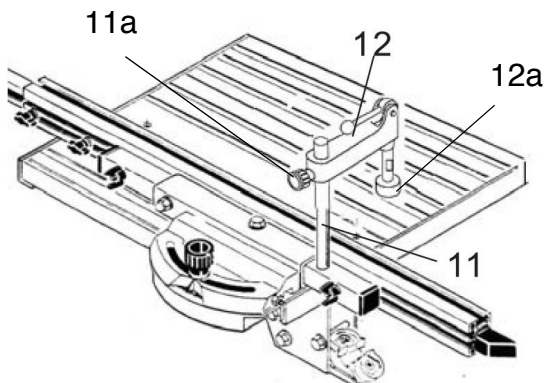
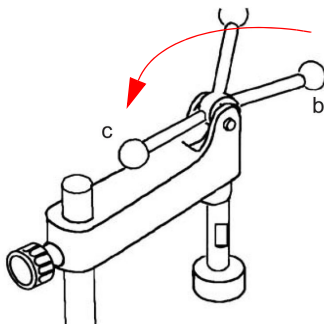

Fig. 23: Fitting the workpiece clamping device
Fig. 24: Moving the clamping lever into position
- Step 1: Insert the rod into the retaining hole on the fence tube (see Fig. 23). The rod is secured from below using the countersunk screw provided.
- Step 2: Attach the workpiece clamp (item 12) to the pull rod. Secure at the required height using the adjusting screw (item 11a).
- Step 4: Loosen the height adjustment bolt (item 11a) and place the clamping device in position. Lower the clamping foot (item 12a) until it makes contact with the workpiece. Then tighten the adjusting screw (item 11a) again to secure the clamping device in position.
- Step 5: Clamp the workpiece by shifting the clamping lever from position "b" to "c" (Fig. 24).